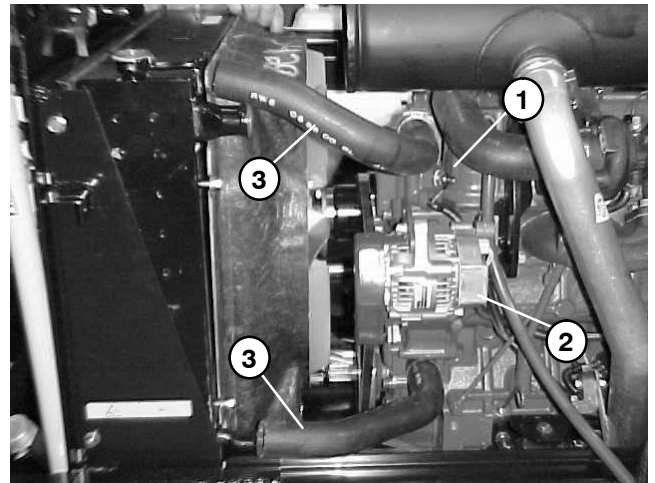

Figure 10
- A. The temperature sender and alternator (Fig 10). Note: the red wire attached to alternator with washer, nut and boot does not have to be removed.
12. Connect two (2) wires to neutral switch on traction pump.
- A. The temperature sender and alternator (Fig 10).